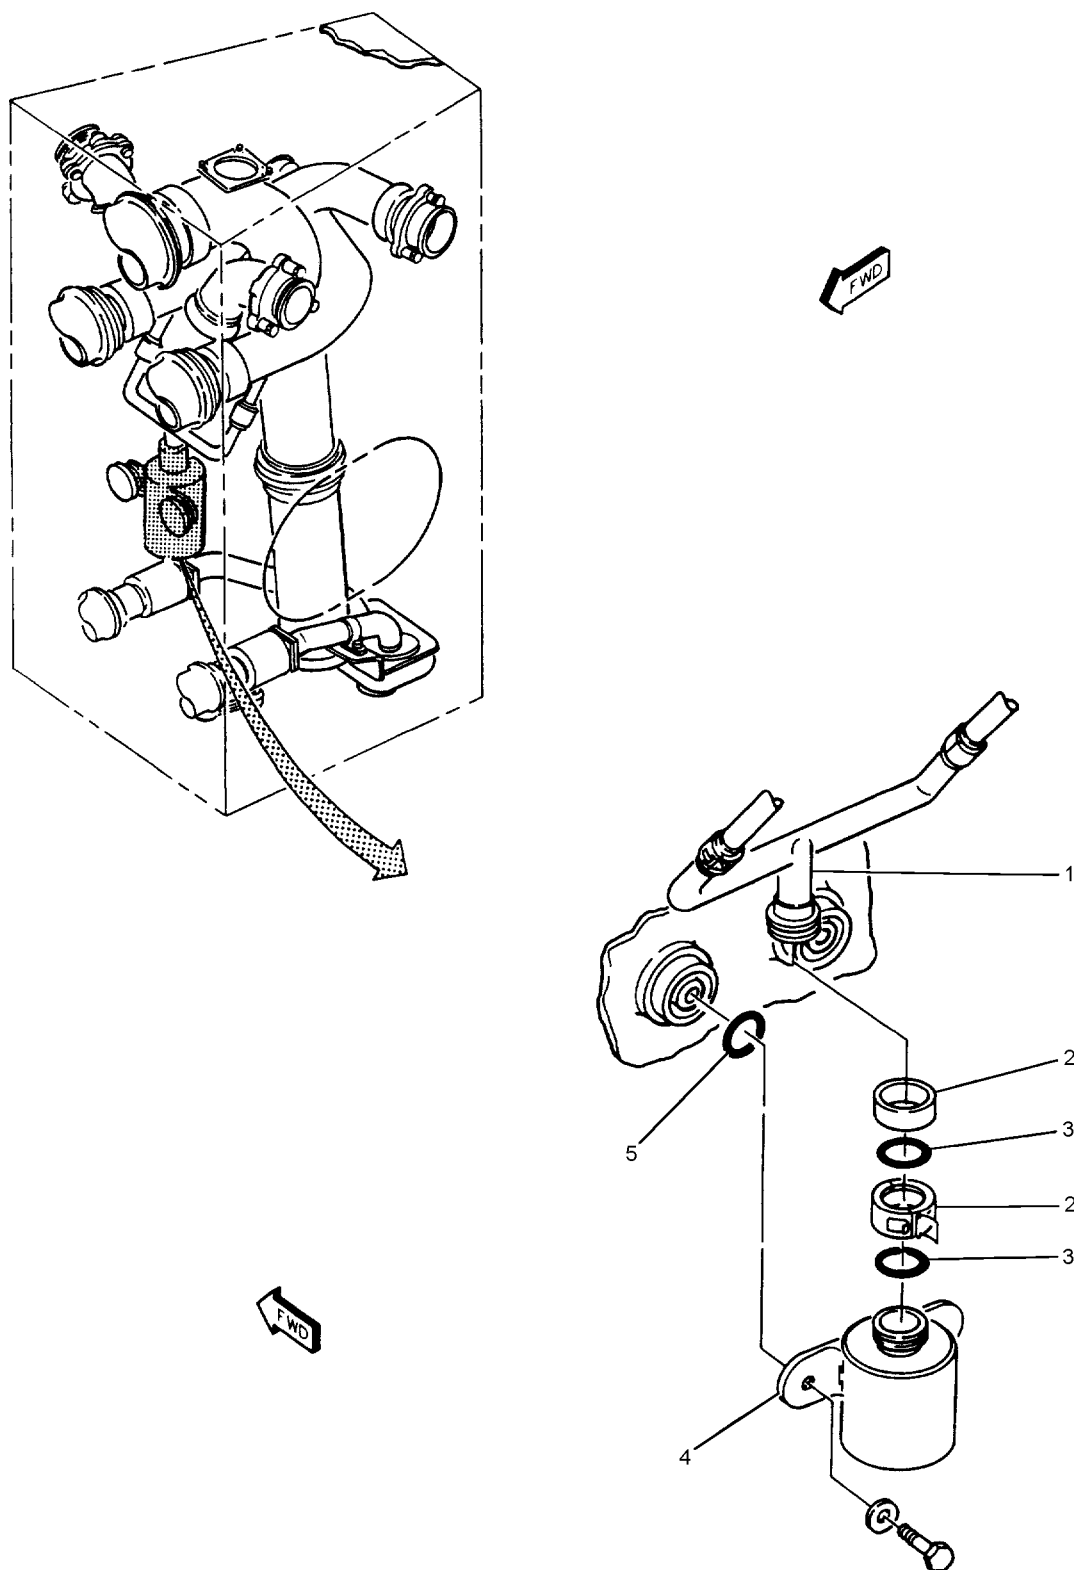

Figure 1. Dump Line Automatic Drain Valve (5VAS518) (Sheet 1)
- c. Install valve (4, figure 1), coupling (2), packings (3 and 5) and attaching parts.